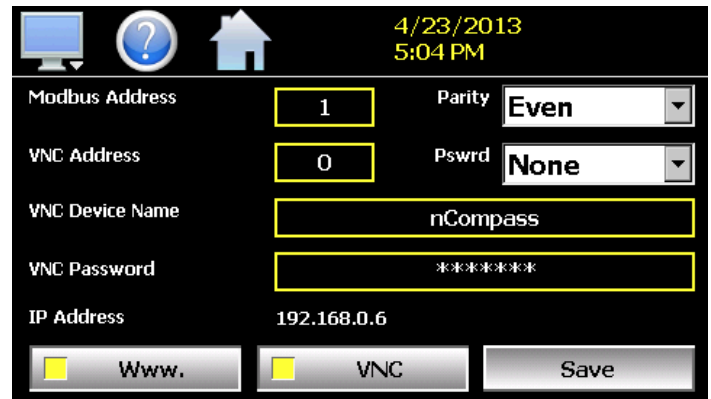

Fig. 100: COMMS Screen
2. The COMMS screen appears (Fig. 100). See the table below for explanation of the fields.